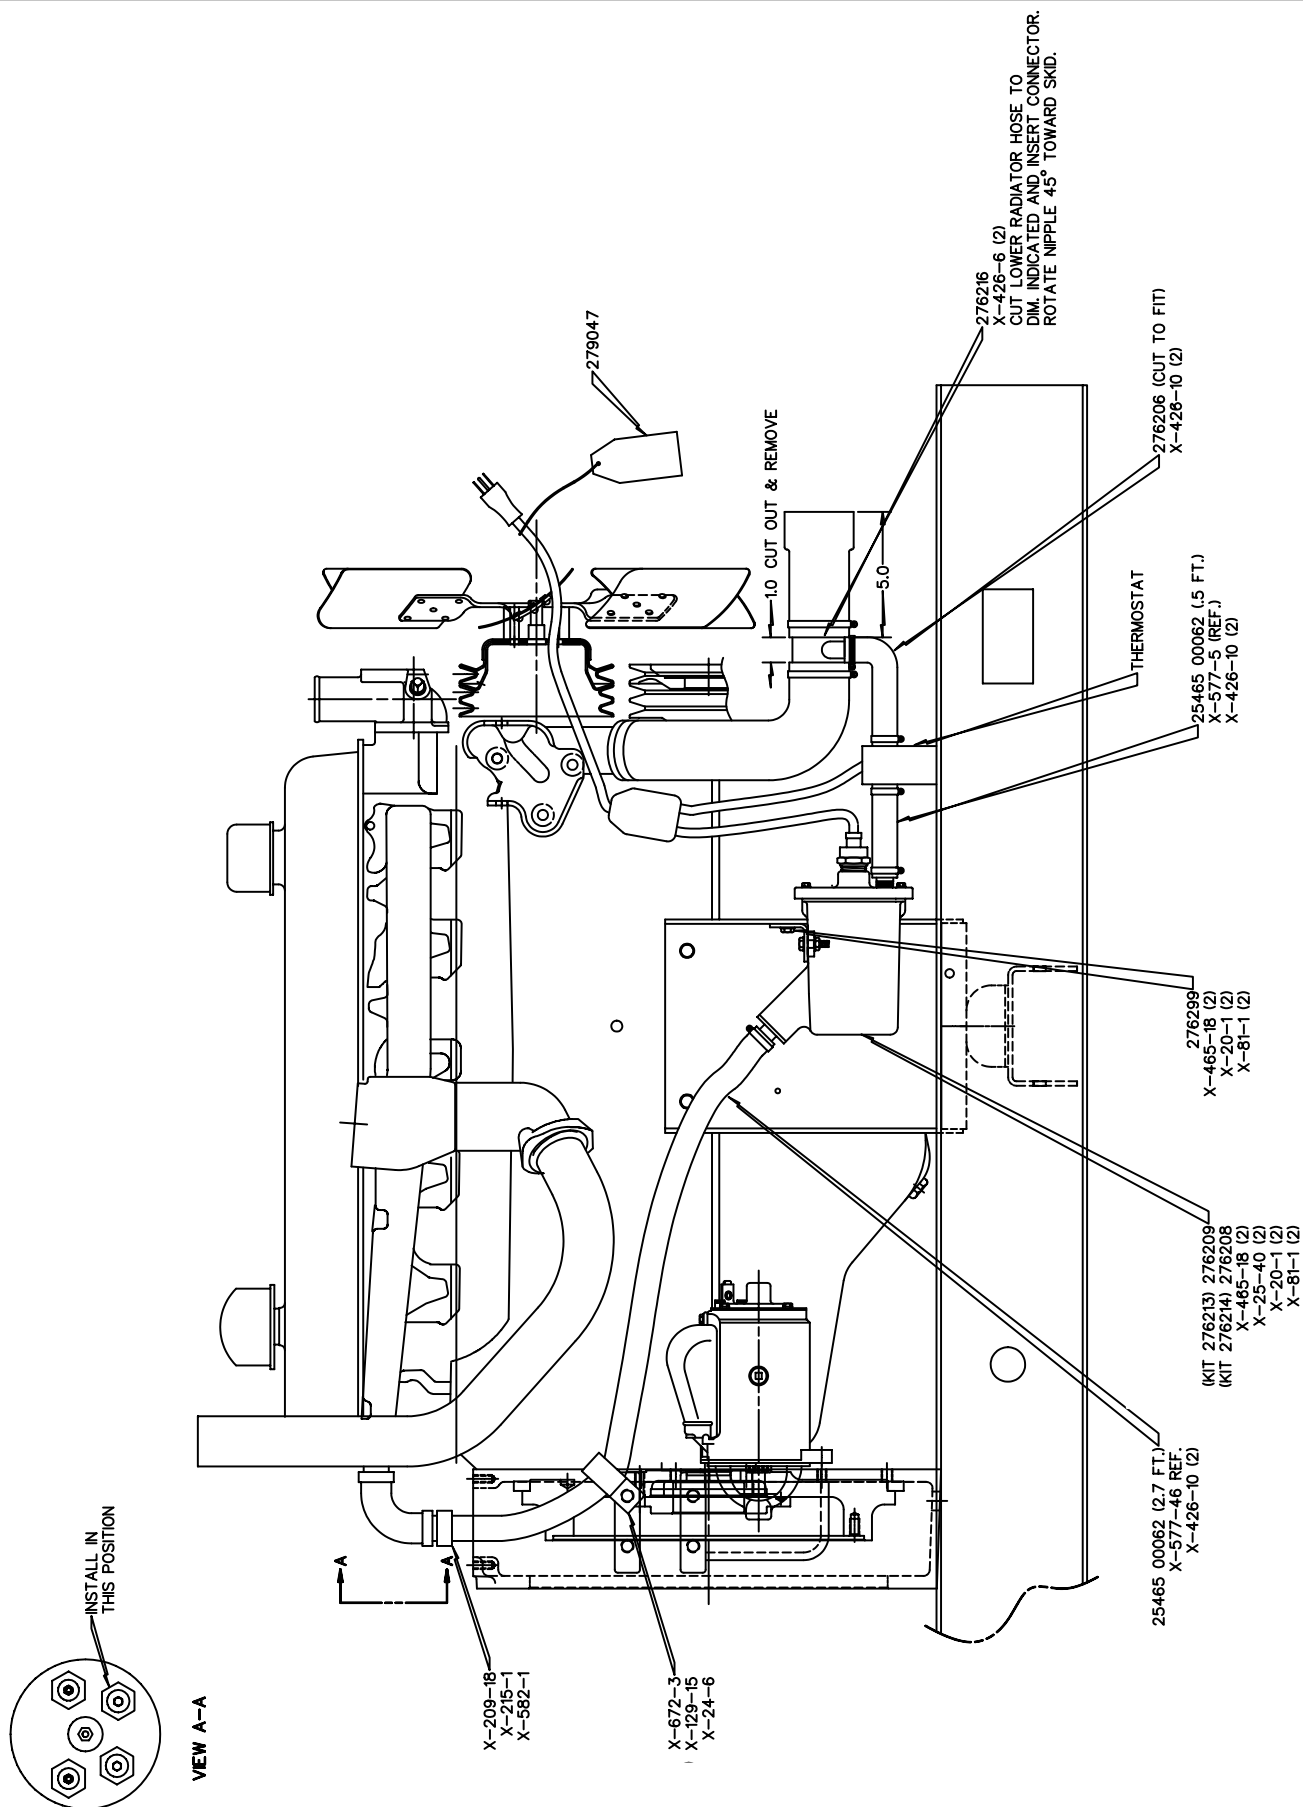

Figure 1. Block Heater Installation
3. Locate sensor block at rear of engine (as viewed from generator end). Remove pipe plug, see Figure 1 for location.